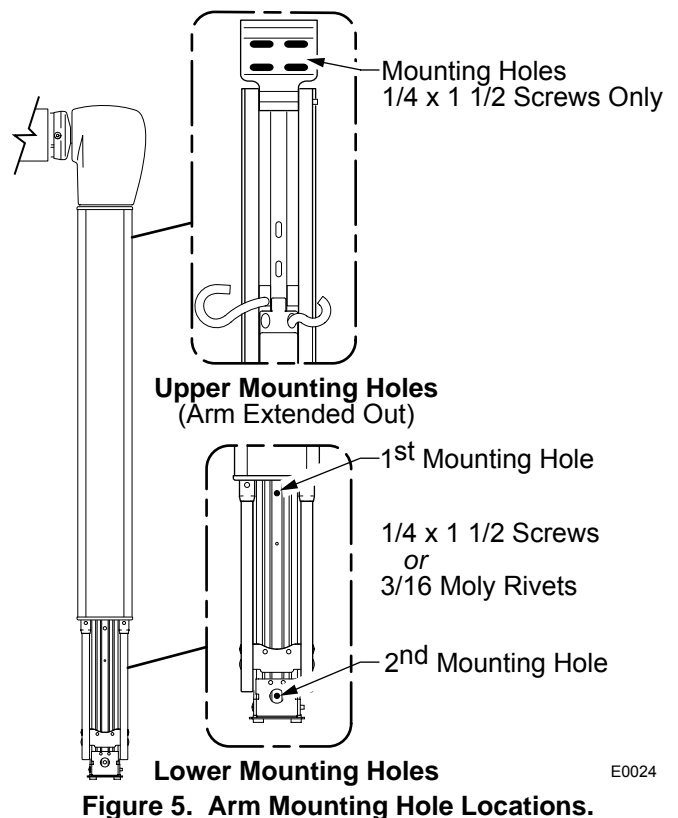

Figure 5. Arm Mounting Hole Locations.
2. (Refer to Figure 5) Drill two 5/16" holes through the vehicle wall for the motor cable and exterior switch cable. Move the cables out of the way to avoid damage while drilling.